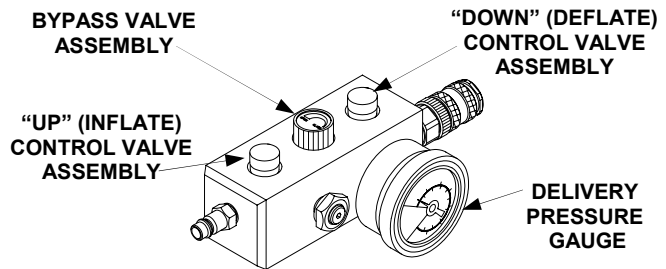

Figure 2-7. Single Push-button Safety Relief and Control valve with Bypass Controls and Gauges
The only controls on the single push-button safety relief and control valve with bypass (figure 2-7) are the “UP” (inflate) and “DOWN”(deflate) control valve assemblies, and the bypass control valve assembly. The “UP” and “DOWN”control valve assemblies are either independently opened (“UP”) to permit regulated air to inflate the lift bag or closed(“DOWN”) to relieve system air to deflate the lift bag and prevent regulated air from pressurizing the system. The bypass is independently opened to permit continuous regulated air to inflate the lift bag or closed to allow the relief of system air to deflate the lift bag and prevent regulated air from pressurizing the system.
- e. **Single Push-button and Dual "Deadman" Safety Relief Control Valves (Figure 2-7 and 2-8 Respectively).** A delivery pressure gauge is provided for each of the "UP"/"DOWN" control valve assembly(s), respective to the controller (single push-button or dual “deadman” safety relief and control valve); one therefore per each lift bag. Each gauge is marked in 20 psi increments from 0 psi to 200 psi and is scribed each 2 psi. The pressure gauge is also marked each 200 kPa from 0 to 1400 kPa and is scribed each 20 kPa.